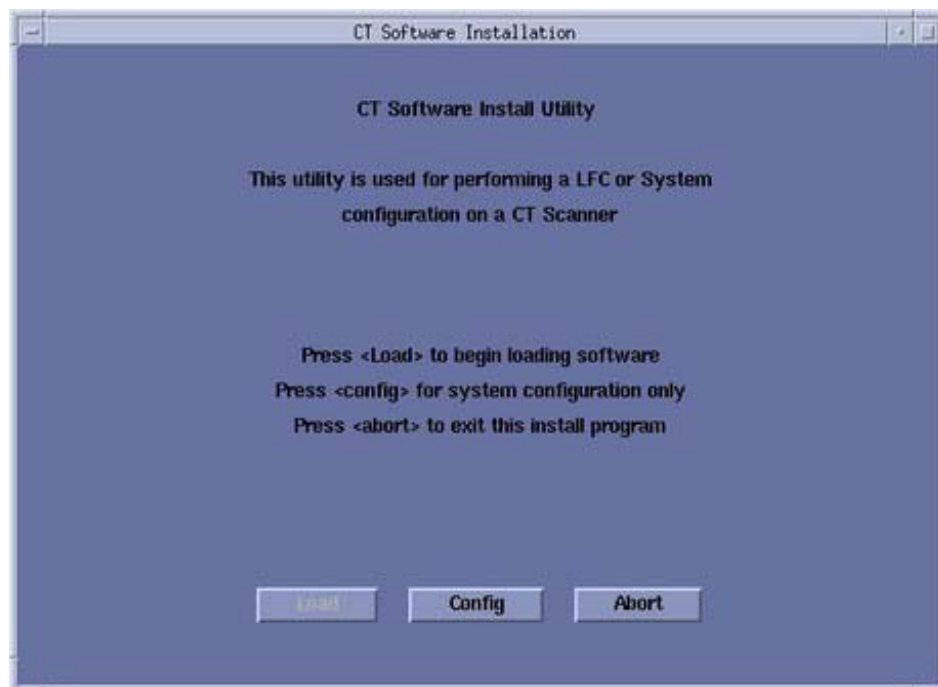

Figure 7-1 Install Utility Window
- The OC displays the Install Utility Window as shown in Figure 7-1.